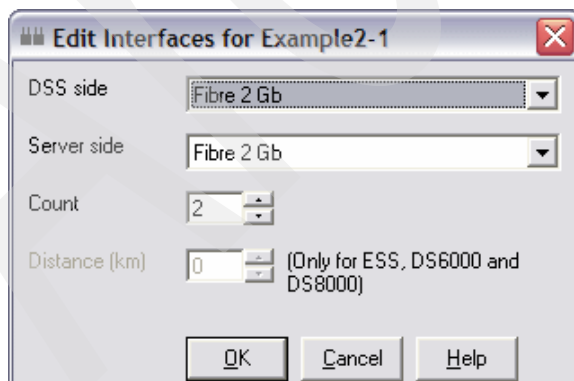

Figure 4-57 Insert planned no of System i5 adapters
- c. In the Edit Interfaces window (Figure 4-57), change the number of interfaces as planned, and click **OK**.